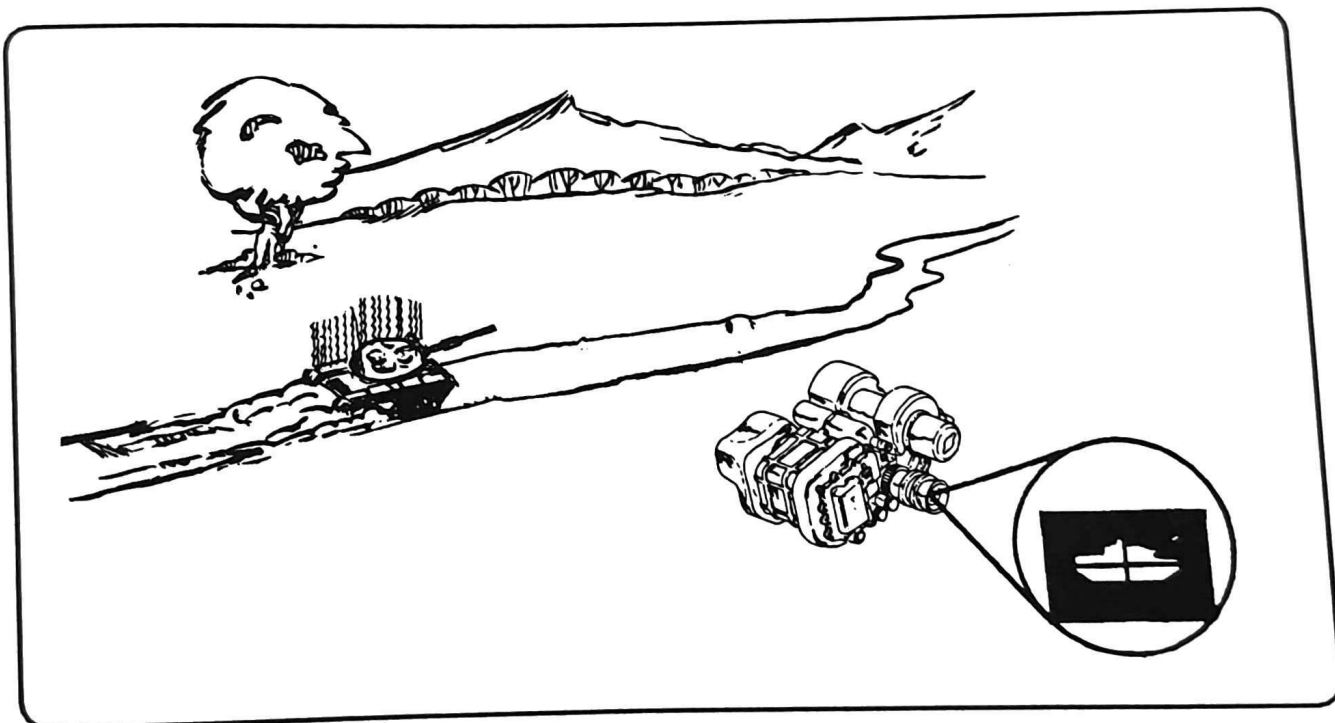

Figure 1-6. Night tracker senses infrared (heat).
(1) The AN/TAS-5 has a 4-power magnification and the FOV is 3.4 by 6.8 degrees. The night tracker is a passive device that receives heat emissions (infrared energy) from a target area (Figure 1-6), and converts the infrared energy to electrical signals and then to visible light. It displays the visible light as a real-time scene for viewing by the gunner. Objects that are warmer than the ambient temperature appear in the night tracker as varying shades of red; objects cooler than ambient temperature appear in the nightsight as black. The night tracker is a larger and heavier tracker than the day tracker, but performs the